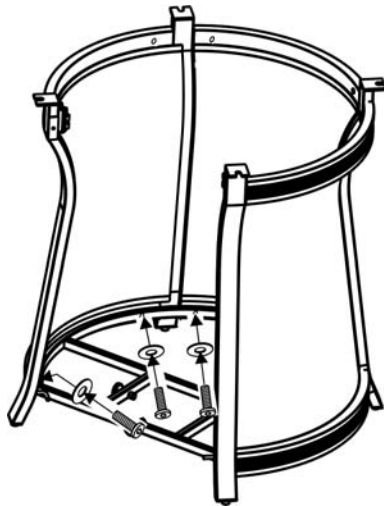
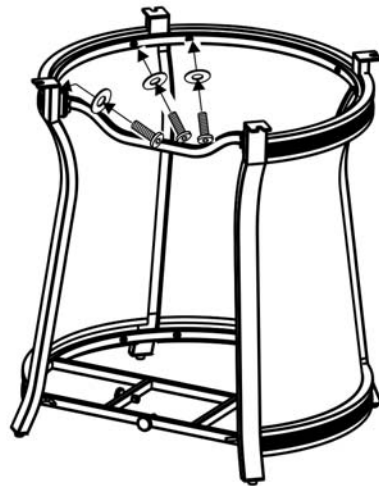

Figure 2a
Figure 2b
2. Attach the bottom frame to the two side panels and the back panel by using six 1/4"x30 mm bolts and washers as shown in Figure 2a. Guide the bolts through the holes in the bottom frame, into the pre-drilled holes in two side panels and the back panel. Do not over tighten. Repeat for the top frame as shown in Figure 2b.